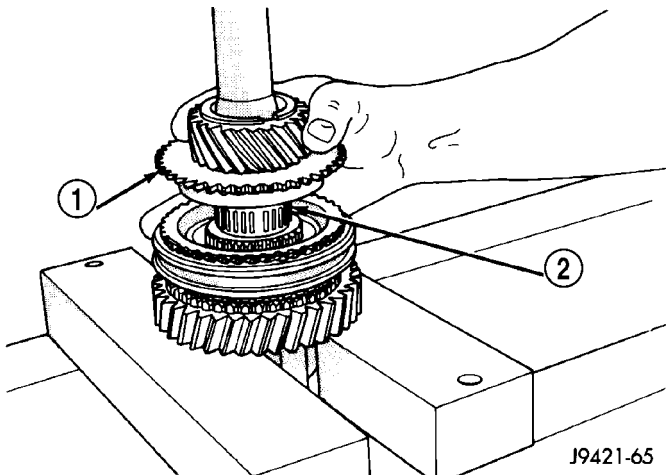

Fig. 61 FIFTH GEAR
(9) Install fifth gear on shaft and onto bearing (Fig. 61).